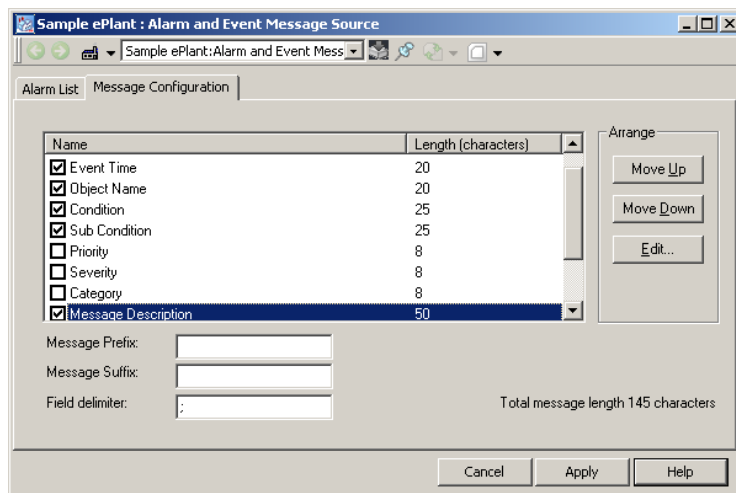

Figure 111. Alarm and Event Message Source - Message Configuration Tab
8. Click the **Message Configuration** tab and check the check box next to the field in the Name column if the field is to be part of the message. This produces a view similar to the one shown in Figure 111. The **Message Configuration** tab is where the messages are formatted for user devices.